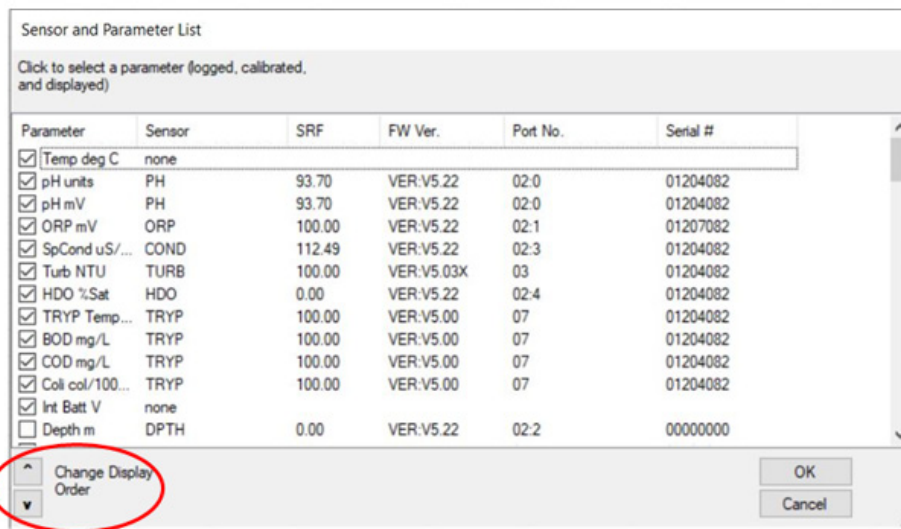

Figure 13: Sensor and Parameter list from Proteus Manager.
17. Displays the sensor and parameter list (Figure 13). Parameters with a tick next to them are displayed on the main interface in the order shown on the list.